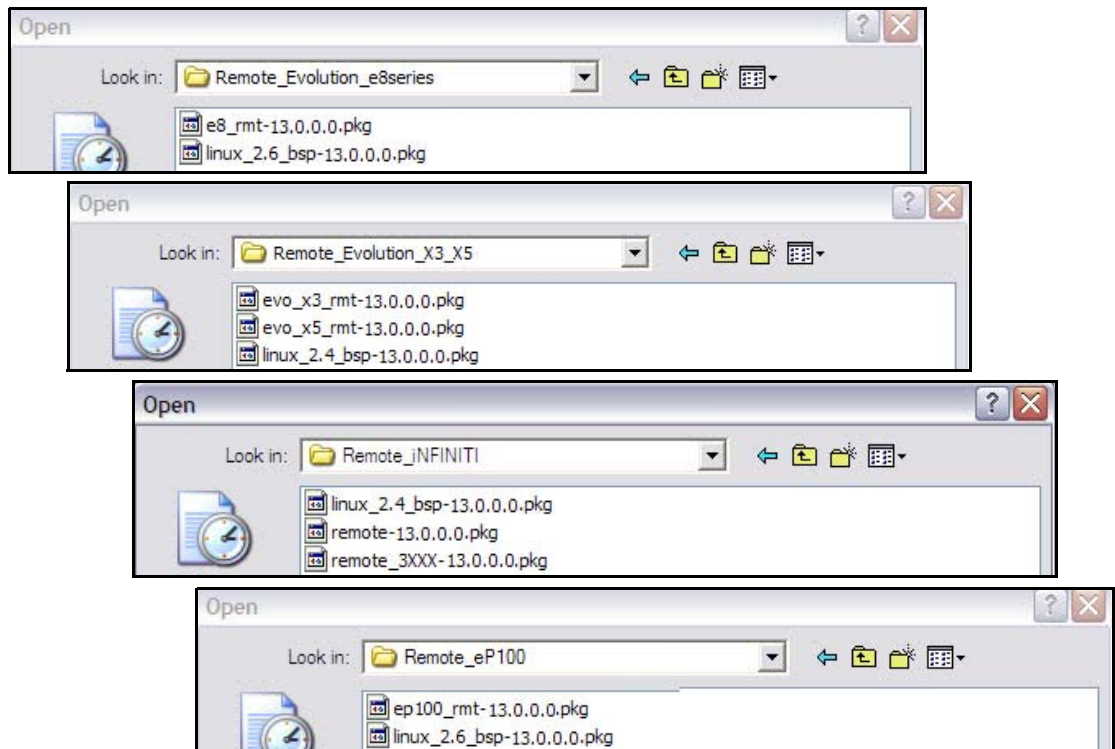

Figure 16. Remote Packages for Satellite Router Models
11. You must download two packages to your Satellite Router: the Linux Board Support Package (BSP) and the correct remote image package. Figure 16 shows the packages for each Satellite Router model that can be downloaded using iSite in iDX Release 3.1.